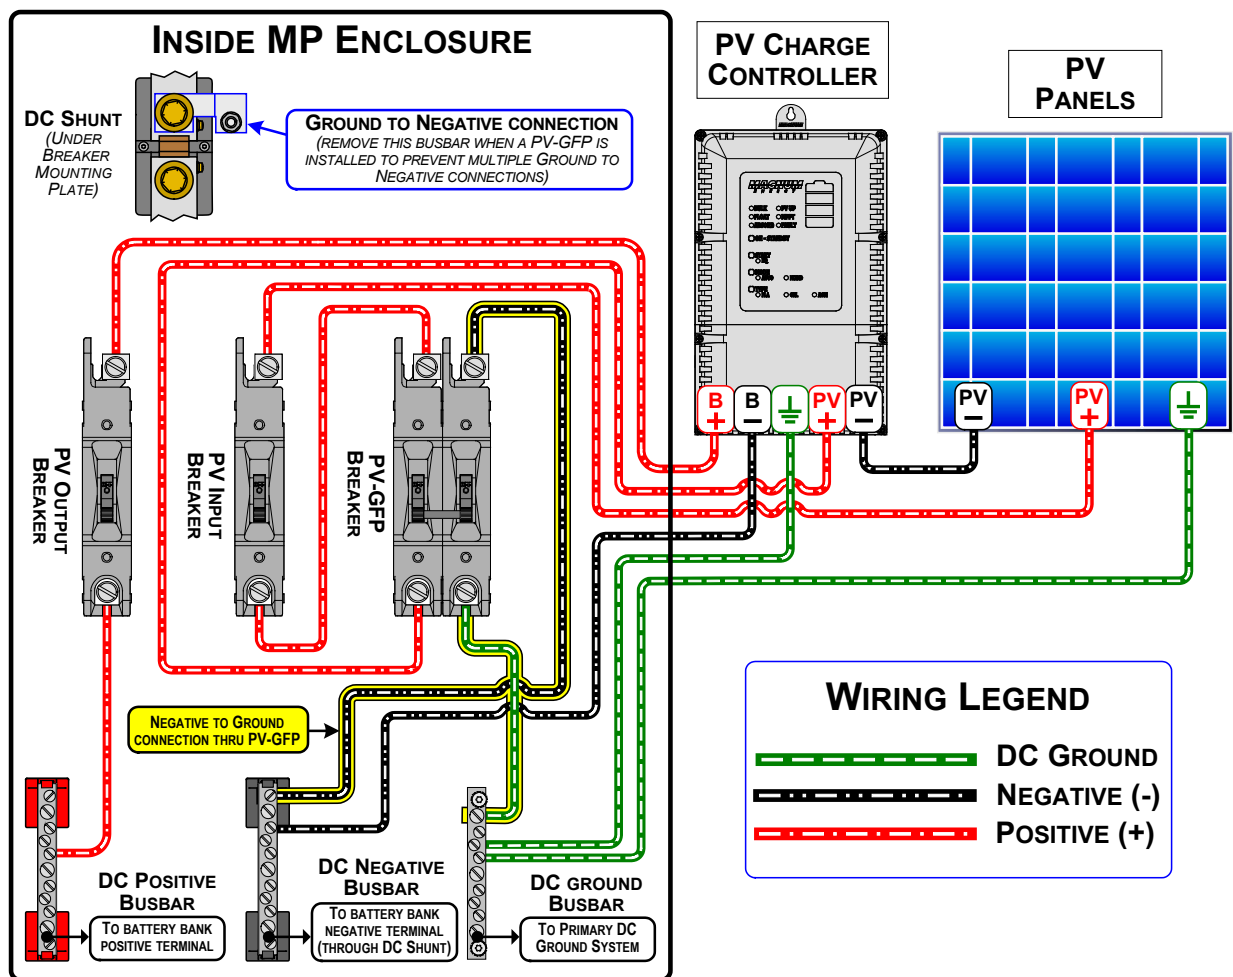

Figure A6-3, Wiring DC Breakers to Controller/PV Array
4. Wire the breaker(s) to the DC circuit (see Figure A6-3).